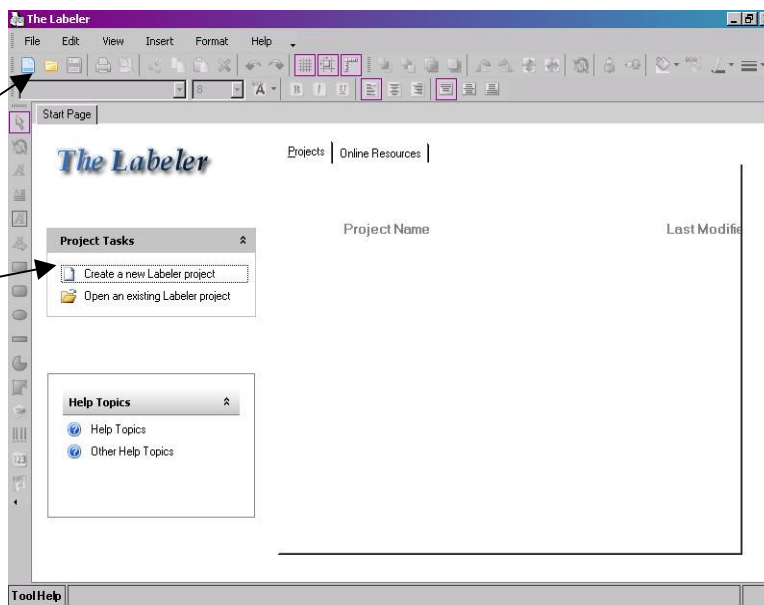

Figure 3.3.1: Main Screen part 1
1. Select create a new label project (see Figure 3.3.1).